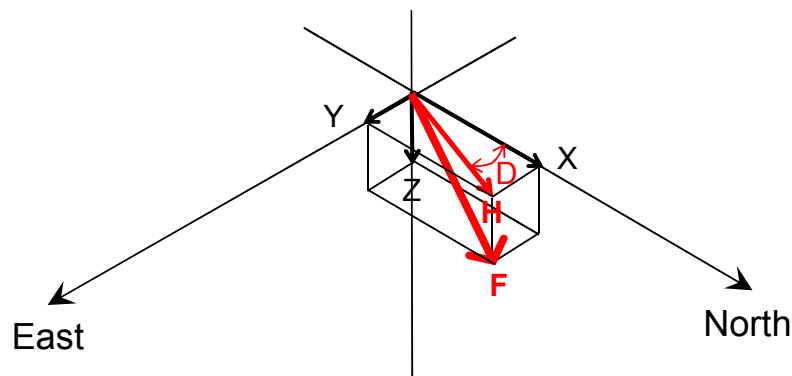

Figure 2: Geomagnetic Field Parameters
1. Declination (D): measured in units of degrees. Magnetic declination is the angle difference between the magnetic north and true north, Figure 2.
3. Horizontal Intensity (H): the horizontal component of the total geomagnetic field, Figure 2.
- North (X) component of the horizontal intensity, Figure 2.
- East (Y) component of the horizontal intensity, Figure 2.
4. Vertical Intensity (Z): the vertical component of the total geomagnetic field, Figure 2.
A compass is a navigation device that shows directions relative the surface of earth. The magnet compass is one of the greatest inventions that can be traced back to 247 BC China. It basically contains a dipole magnet, typically in the shape of a needle, which can interact with the earth's geomagnetic field, whose intensity is around 25~65uT, to align itself to the field direction. As shown in the Figure 2, the horizontal component (H) of the geomagnetic field is the one that can actually give us the direction. The vertical component (Z) just causes the tilting of the needle.